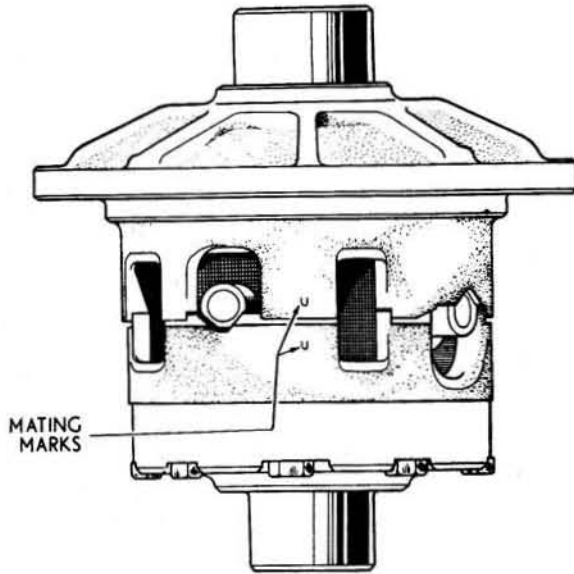

Fig.8.13. Mating marks on the differential case
- 1 Before dismantling commences, check for mating marks on the two halves of the casing (Fig.8.13). Make your own marks with a centre punch or a scriber if none are visible.